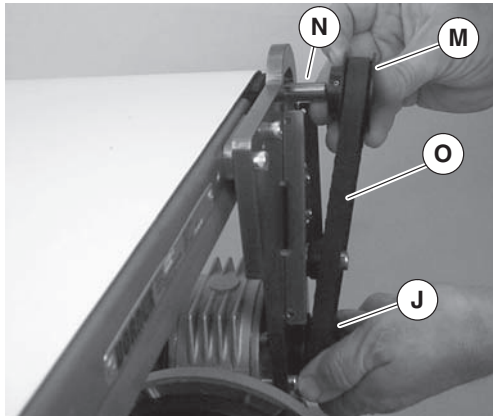
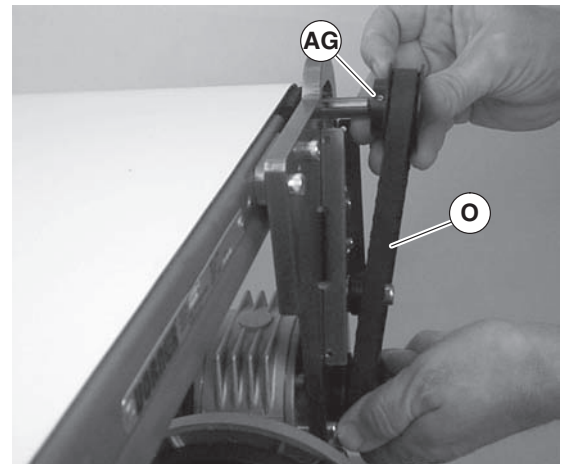

Figure 16
Figure 22
10. Install key (Figure 16, item N).
3. Remove timing belt (Figure 22, item O).
If timing belt does not slide over pulley flange, loosen driven pulley set screws (Figure 22, item AG) and remove pulley with belt (O). For re-installation, see steps 11 and Figure 16 on page 12.